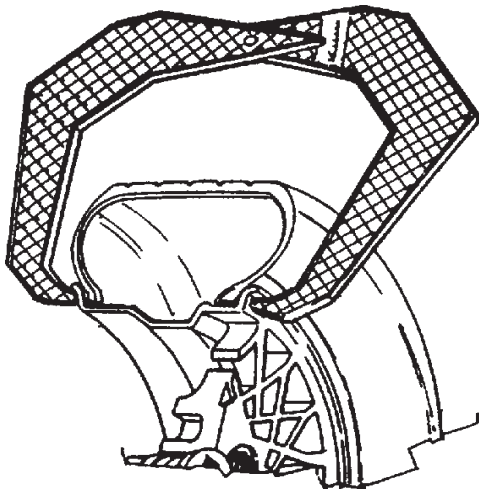

Figure 23
4.5.2. Measure/Enter rim width using rim width calipers. Measure wheel where corrective clip-on weight would be applied, Figure 23. Enter the measured width by rotating the shaft until the desired value appears in the center display.